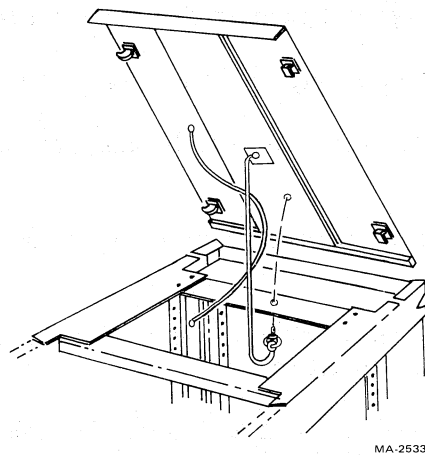

Figure 3-10 Top Cover Fastener
9. Locate the fastener attached to the underside of the master transport top cover (Figure 3-10). Release the top cover by turning the fastener one-quarter turn in a counterclockwise direction. When it is released, the fastener hangs by a wire from the top cover. Pull the top cover forward approximately 1.27 cm (0.5 in) and lift it off. Rest the cover on top of the cabinet, leaving the ground wire connected.